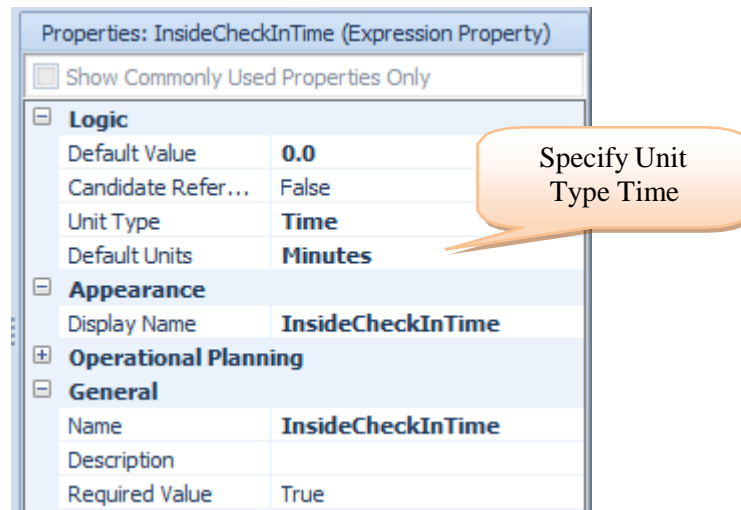

Figure 4.11: Inside Check-In Properties
Step 7: Since the check-in times are in minutes, we want to specify the “Unit Type” for these properties as seen in Figure 4.11³⁴.